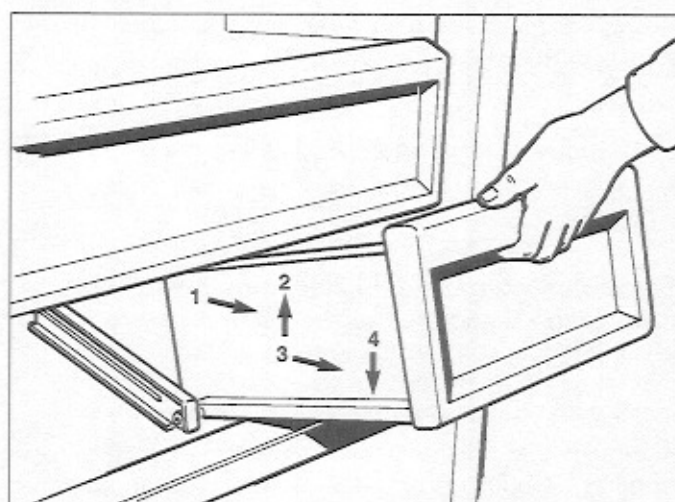

Figure 7-8. Small Storage Drawer Removal
Remove the small storage drawer assemblies by pulling open until drawer stops (1). Raise front of drawer (2) while pulling out further to bypass stop (3), then drop front of drawer down while lifting rear drawer rollers out of the roller/slide assemblies (4). (See Figure 7-8.)